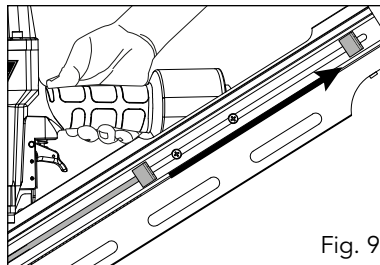

Fig. 9
2. Grip the handle (8) firmly and slide the magazine feeder (4) all the way to the rear of the magazine (5) until it latches in place (fig. 9).
**Note:** Keep fingers clear of fastener track of magazine (5) to prevent injury from unintended release of the magazine feeder (4).